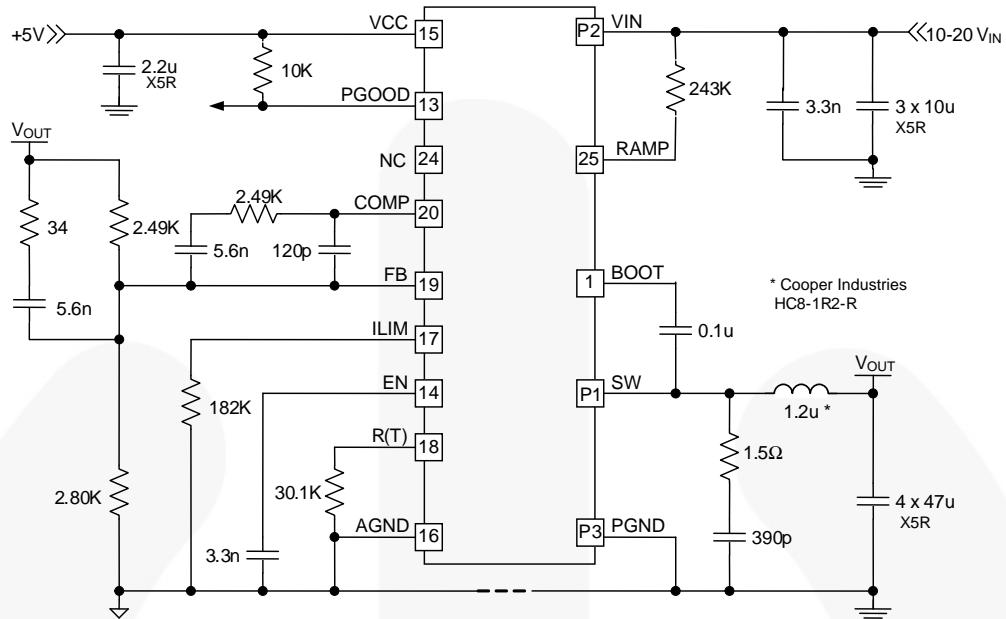

Figure 10. Application Circuit: 1.5 VOUT, 10 A, 500 KHz (10 V-20 VIN)
Typical operating characteristics using the circuit in Figure 10.  $V_{IN}=12\text{ V}$ ,  $V_{CC}=5\text{ V}$ ,  $T_A=25^\circ\text{C}$ , unless otherwise specified.
4. Circuit values for this configuration change in Figure 10.
Typical operating characteristics using the circuit in Figure 10.  $V_{IN}=12$  V,  $V_{CC}=5$  V,  $T_A=25^\circ\text{C}$  unless otherwise specified.
- Circuit values for this configuration change in Figure 10.